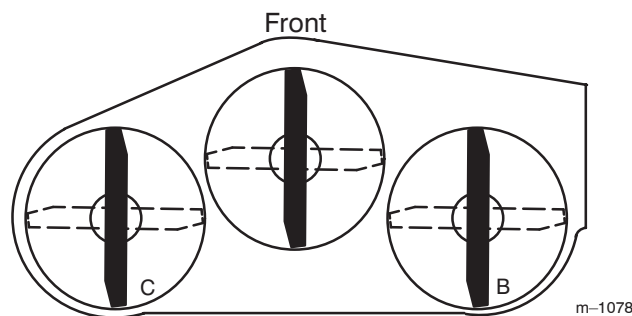
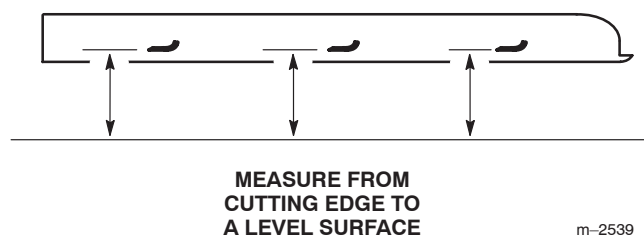

Figure 50
Figure 51
1. Position the **right** blade front to rear (Fig. 50).
2. Measure the right blade at the **B** location (Fig. 50), from a level surface to the cutting edge of the blade tip (Fig. 51).
4. Position the **left** blade front to rear (Fig. 50).
5. Measure the left blade at the **C** location (Fig. 50), from a level surface to the cutting edge of the blade tip (Fig. 51).